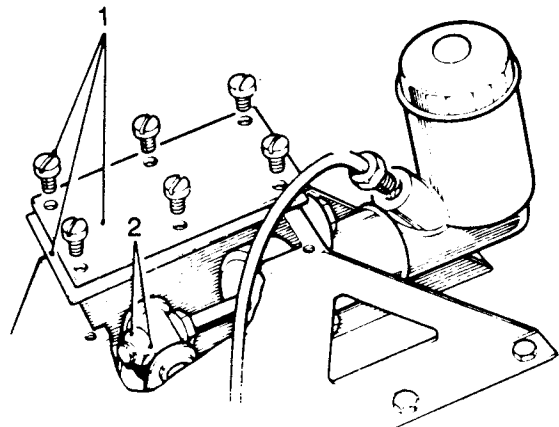

Fig H3.12
- (6) Refer to Fig H3.12. Remove the top cover and gasket (1) from the clutch pedal bracket.
- (7) Remove the nut (2) from the end of the master cylinder push rod and push rod into the master cylinder to clear the pedal trunnion.